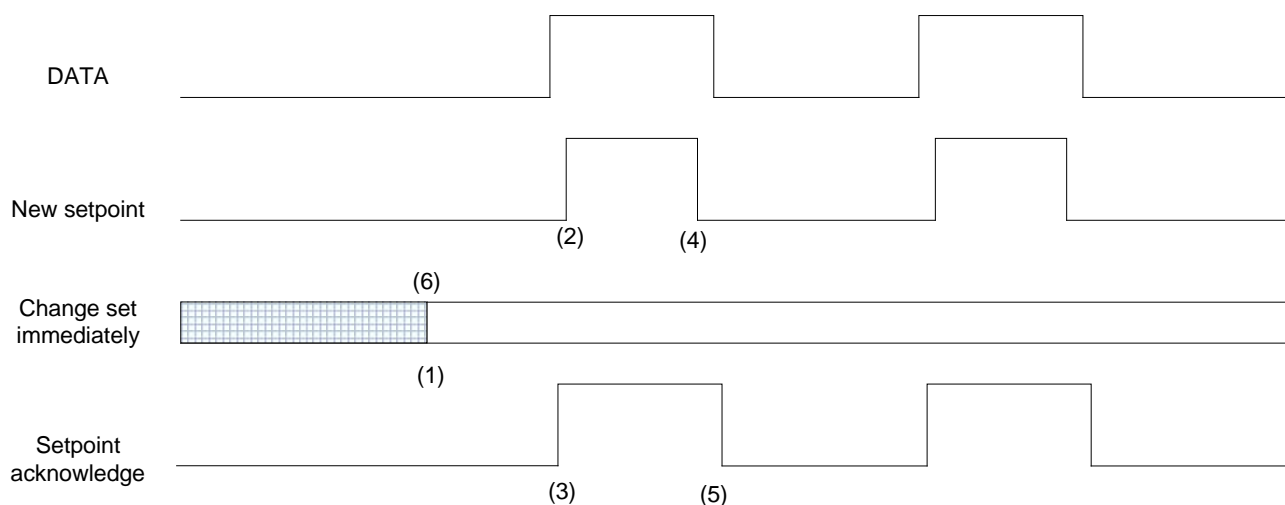
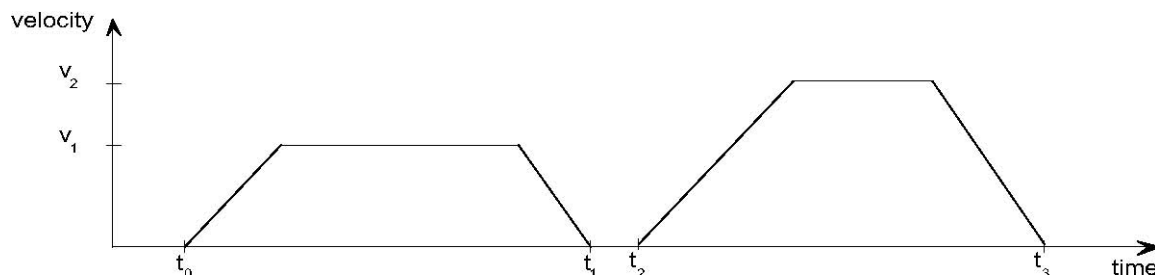

Figure 17: Set-point transmission from a host computer
Figure 18: Single set-point
Figure 17, Figure 18 and Figure 19 show the difference between the "set of set-points" mode and the "single set-point" mode. The initial status of the bit '*change set immediately*' in the *controlword* determines which mode is used. To keep simple these examples, only trapezoidal moves are used.
If the bit '*change set immediately*' is "0" (continuously drawn line in Figure 17) a single set-point is expected by the drive (1). After data is applied to the drive, a host signals that the data is valid by changing the bit '*new set-point*' to "1" in the *controlword* (2). The drive responds with '*set-point acknowledge*' set to "1" in the *statusword* (3) after it recognized and buffered the new valid data. Now the host may release '*new set-point*' (4) and afterwards the drive signals with '*set-point acknowledge*' equal "0" its ability to accept new data again (5). In Figure 18 this mechanism results in a velocity of zero after ramping down in order to reach a *target position* x1. at t_1 . After signaling to the host, that the set-point is reached like described above, the next *target position* x2 is processed at t_2 and reached at t_3 .
If the bit '*change set immediately*' is "1" (dashed line in Figure 17) the new target position will be active immediately. In Figure 19 the drive receives the first *target position* at t_0 . At the time point t_1 the drive receives a second *target position*. The drive readapts the actual move to the new target position immediately.